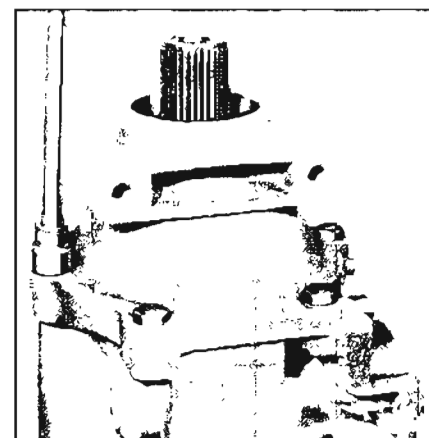

Figure 5-533
2. Remove extension housing to case attaching bolts. See Figure 5-533.